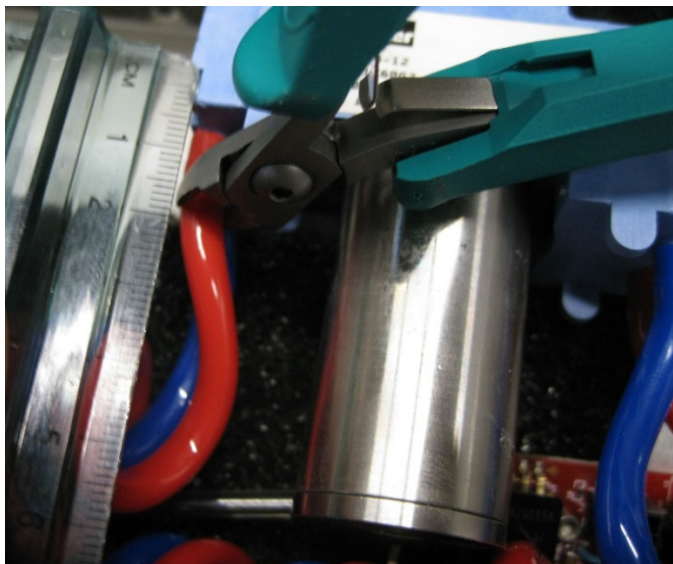

FIGURE H-10. Location of cuts to remove pump assembly from tubing
10. Cut the blue (inlet) and red (outlet) tubing on each side of the pump behind the barbed connector as shown in FIGURE H-10.